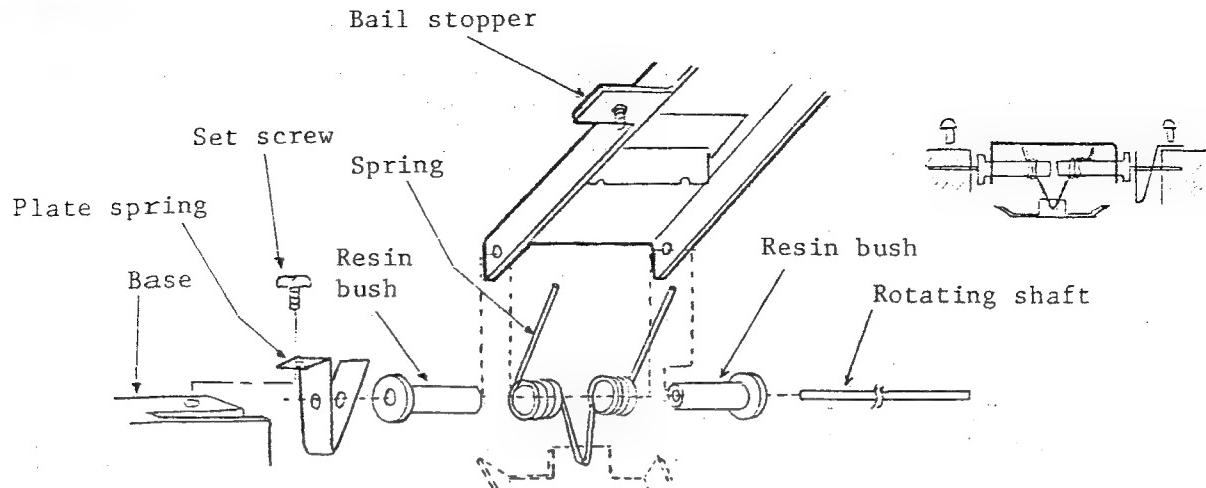

Fig. 4.16 Plate Assembly
- Secure the rotating shaft with the set screws. As shown in Fig. 4.16, the set screw on the head load assembly side should be tightened together with a plate spring.